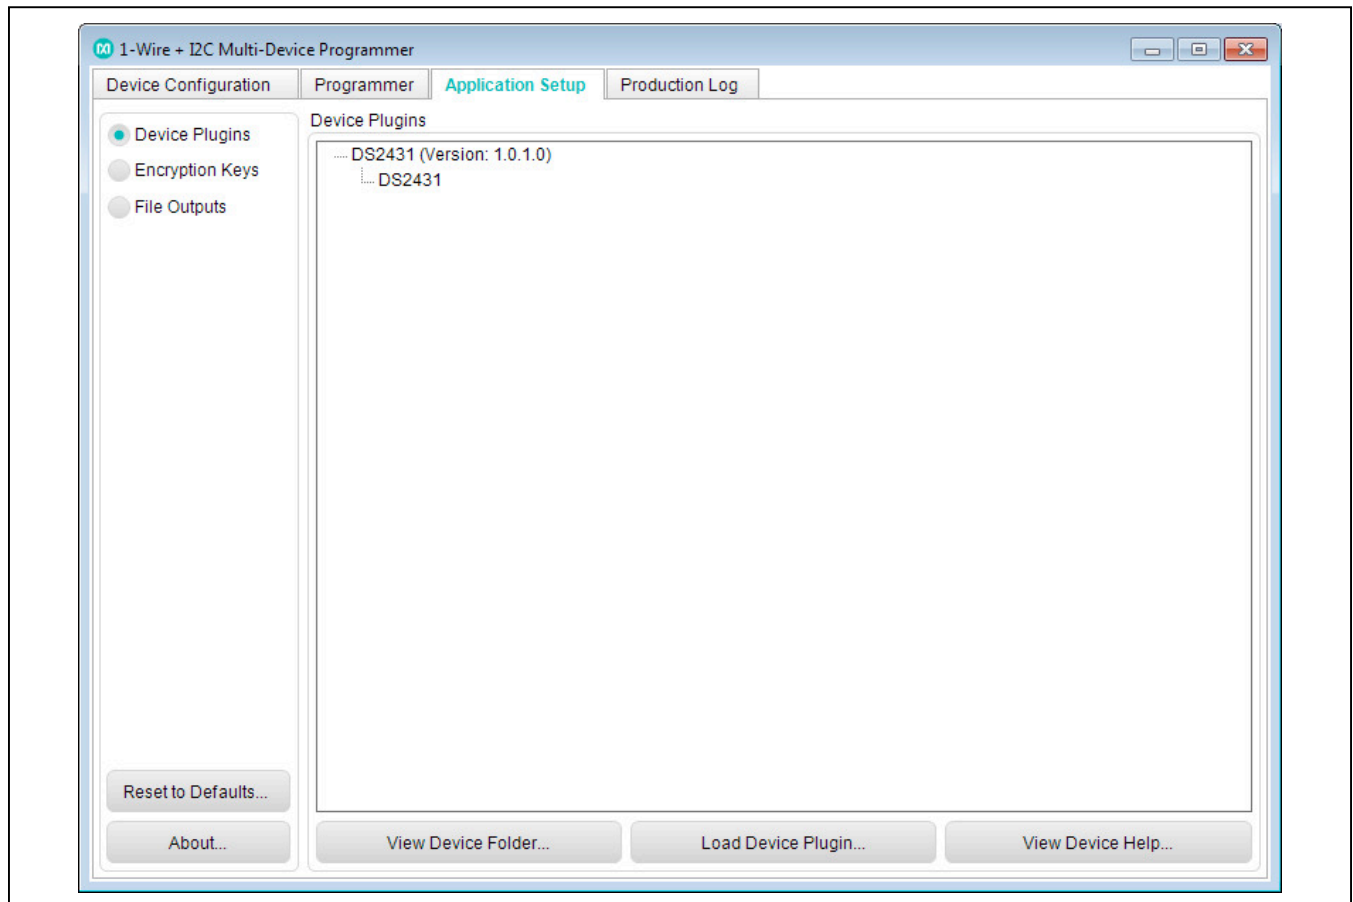

Figure 2. Loaded Device Plugins
- 2) Navigate to the **Application Setup** tab and click on the **Device Plugins** radio button. See Figure 2.